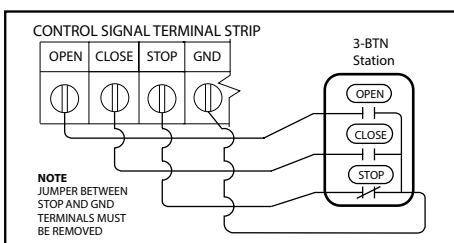

Fig. 1
- 1) For a single 3 - button installation, make connections as shown in Fig. 1.